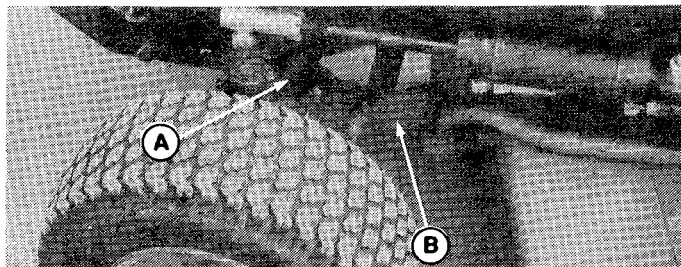

Figure 2. Mower Hitch
2. Align the mower hitch with tractor hitch (figure 2).
6. Use the following procedure to connect the two hitch arms (B, figure 2) to the tractor (A) with a pin and hairpin clip on each side.